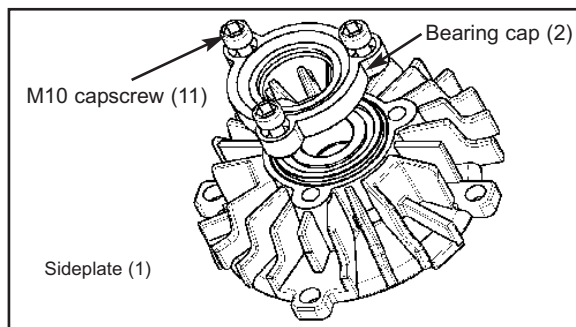

Figure 23
- Install a new bearing cap O-ring, plus any shims, and attach the bearing cap to the sideplate with three M10 capscrews (11). Tighten the capscrews to 26 lbs ft (35 Nm) ; See figure 23.